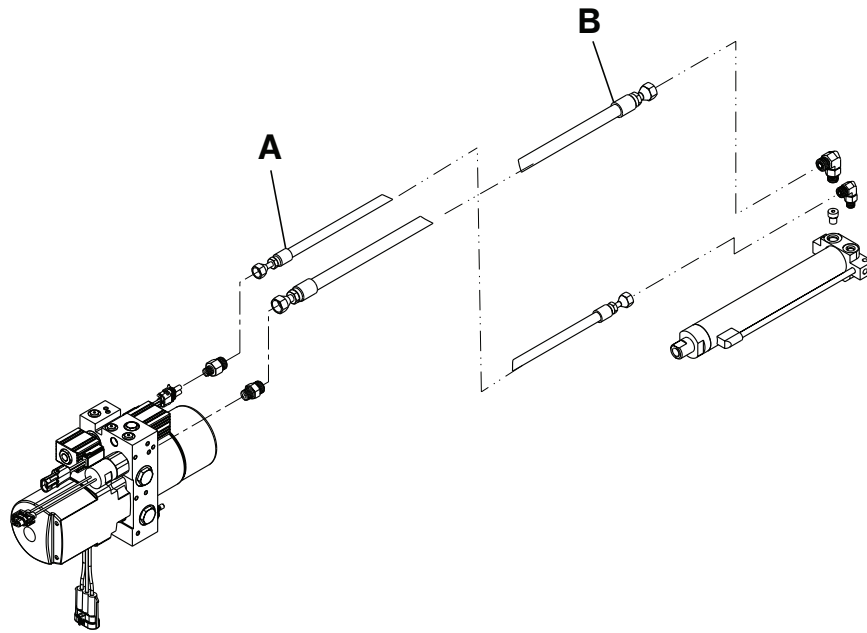

Figure 14 – Hydraulic hose replacement
- Using a 11/16" combination wrench and a 13/16" combination wrench, remove the hydraulic hose (A or B) (Figure 14). Discard the hose.